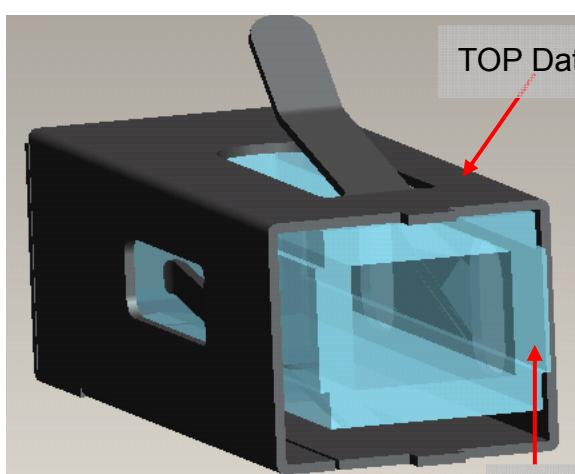

Fig. 5-1
5.1 LP must datum well with “BKT\_LP” show as Figure 5-1